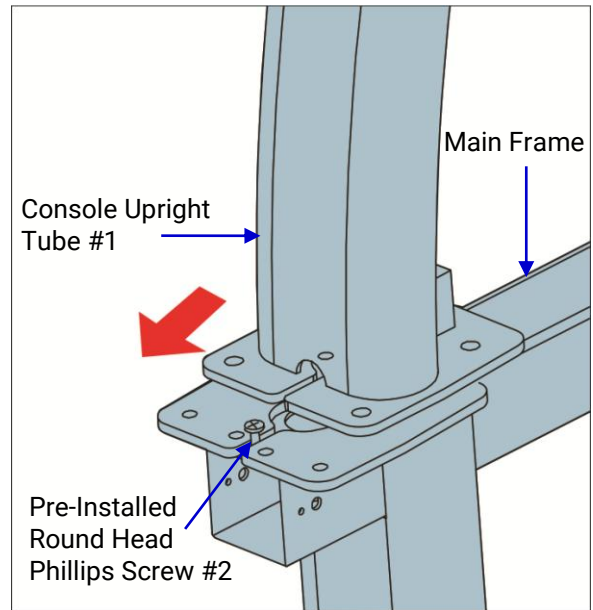

Fig 2.5-5A
- 1) Slide the **Console Upright Tube #1** into the main frame; hook the **Console Upright Tube #1** under the **Pre-Installed Round Head Phillips Screw #2**. (Fig 2.5-5A)